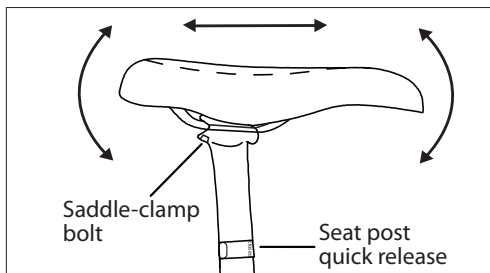

Fig. 52: Saddle bolts and adjustments.
1. Decrease the tightness of the saddle-clamp bolt (Fig. 52) until the saddle can be moved.